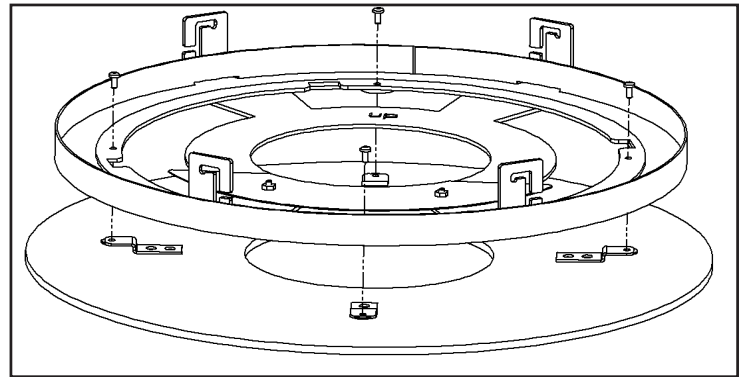

Figure 39: Top Plate Fascia Band Removal
Remove the four (4) T20 screws. Twist the Fascia Band assembly and lift the fascia band up to remove it (see Figure 39).